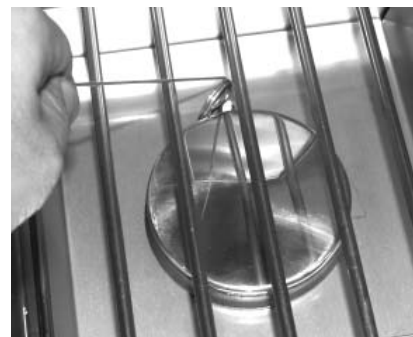

Fig. 15-2 - Manual lighting
**CAUTION:** Always wait five (5) minutes for gas to clear after any unsuccessful lighting attempt.
2. Insert either a burning long-barrel butane lighter, a burning long-stem match, or a burning match held by a wire extension holder through the cooking grid opening to the burner (Fig. 15-2). Hold the flame against the edge of the burner.
4. If the burner does not light within five (5) seconds of turning the control knob, **immediately depress the knob and turn the valve to OFF**. **WAIT FIVE (5) MINUTES** before repeating steps 2 through 4 of the MANUAL LIGHTING instructions.